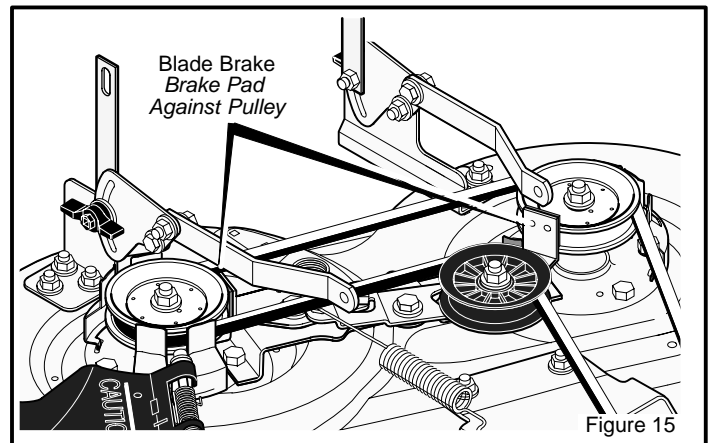

Figure 15
8. Move the **blade rotation control** to the **DISENGAGE** position. Stop the engine. Disconnect the wire from the spark plug. Check the operation of the **blade brake**. Rotate the pulleys with your hand. Make sure the **brake pads** are pressed tightly against the pulleys (Figure 15).